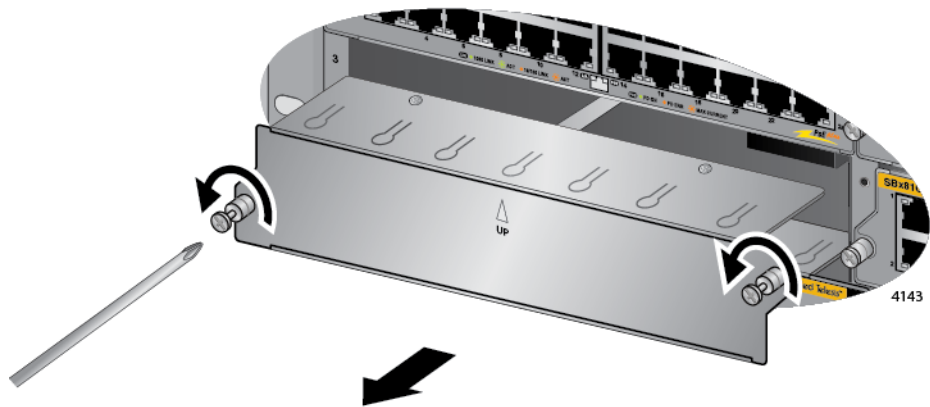

Figure 95. Removing a Blank Slot Cover
2. If the selected slot for the line card is covered with a blank slot cover, use a #2 Phillips-head screwdriver to loosen the two captive screws on the cover and remove it from the chassis. Refer to Figure 95.